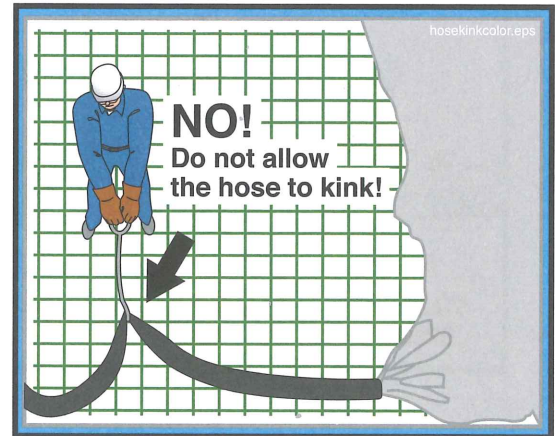

Figure 53
15.9 **⚠ WARNING** Do not kink the end hose. Kinking will cause the pump to create maximum concrete pressure. The pump may unkink the hose by force! (See Figure 53.)